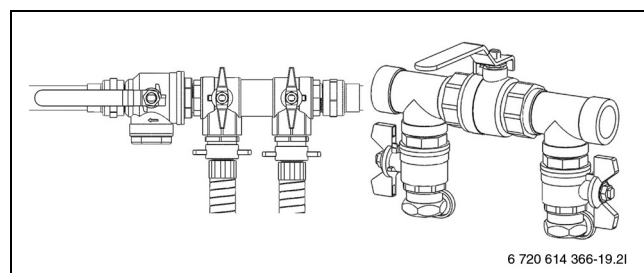

Fig. 36 Filling units in filling position
- ▶ Turn the valves on the filling unit so that they are in filling position (→ Figure 36).